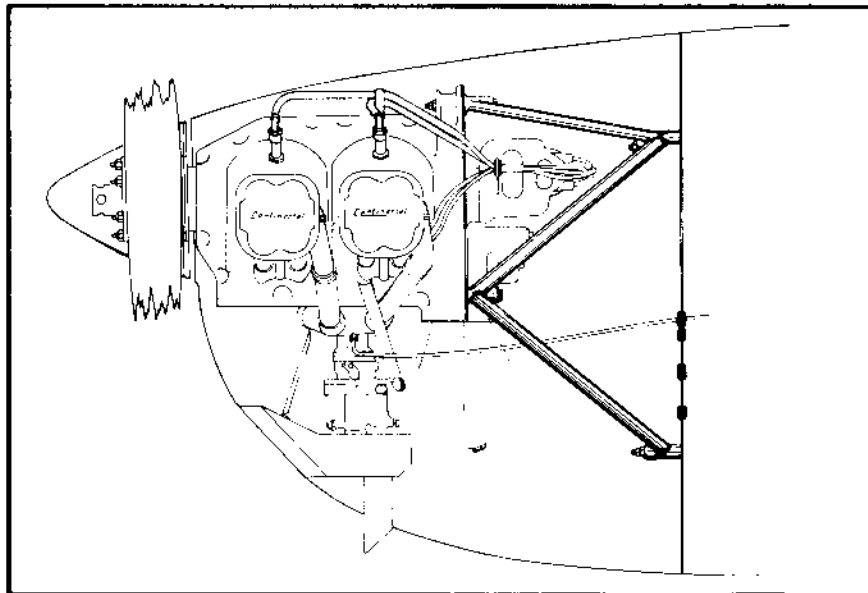

Figure 10. Typical Installation Diagram.
f. Connect the throttle control, ignition switch wires, oil temperature gauge capillary, oil pressure gauge line, and the tachometer cable and conduit nut to the proper points on the engine as illustrated in figures 10 and 11.